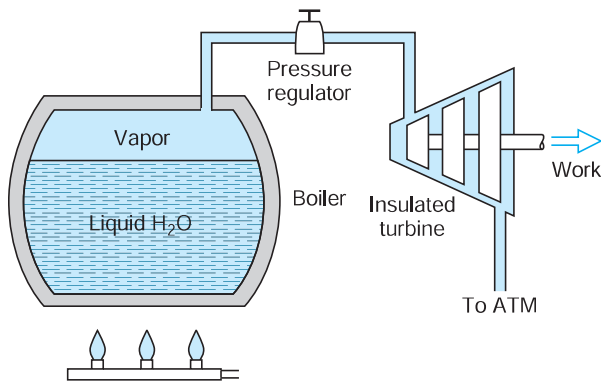

FIGURE P6.138
- 6.138** A steam engine based on a turbine is shown in Fig. P6.138. The boiler tank has a volume of 100 L and initially contains saturated liquid with a very small amount of vapor at 100 kPa. Heat is now added by the burner. The pressure regulator, which keeps the pressure constant, does not open before the boiler pressure reaches 700 kPa. The saturated vapor enters the turbine at 700 kPa and is discharged to the atmosphere as saturated vapor at 100 kPa. The burner is turned off when no more liquid is present in the boiler. Find the total turbine work and the total heat transfer to the boiler for this process.